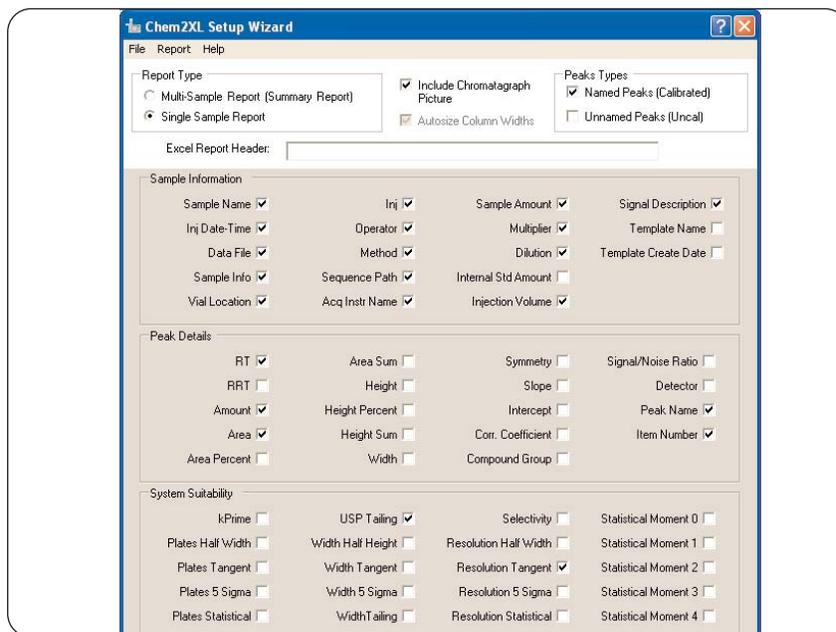

Figure 2
- The *Chem2XL Setup Wizard* is now in view (figure 2). Select the items to be included on the report.
- Figure 2 is an example of how to set up a single sample report template.